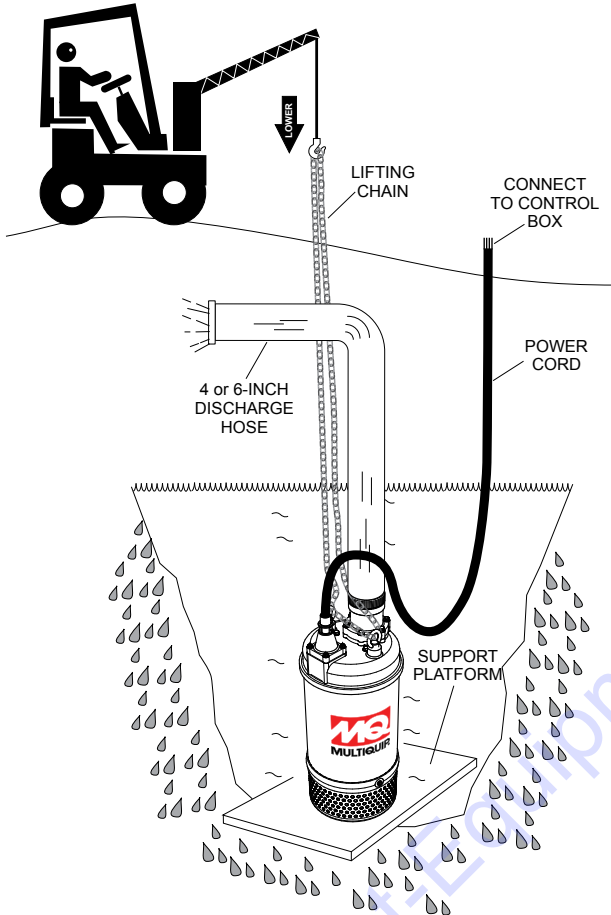

Figure 11. Placing the Submersible Pump (Correct Upright Position)
1. Attach a suitable lifting chain to the eye bolts or lift handle (Figure 11) on the pump. Use a crane, or similar lifting device and lower the pump into place. For applications where there is an excessive amount of mud, grit or silt, the use of a support platform is desirable.